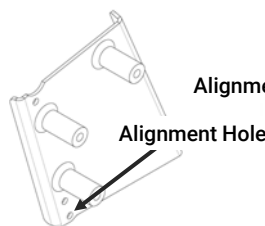
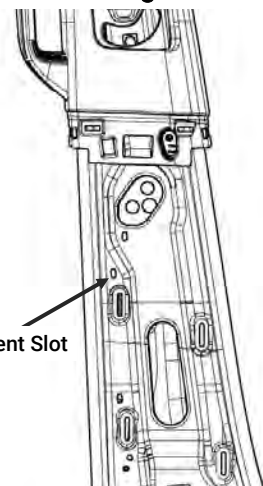
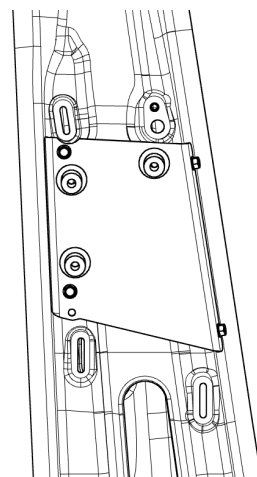

Figure 11a
Figure 11b
Figure 12
2. (1) of the [3X162] #14X3/4" self-drilling screws is used to set the height of the bracket. Insert a screw through the lowest hole on the bracket (Fig 11a) and into the slot that the wire clip was removed from (Fig 11b). The screw should be in the very bottom of the slot.
4. Secure the B-pillar bracket in place with a 3/8" socket and (4) [3X162] self-drilling screws. The holes can be pre-drilled with a 3/16" drill bit if necessary.
5. Remove the alignment screw that was used in step 2. Figure 12 shows the B-pillar bracket fully installed.